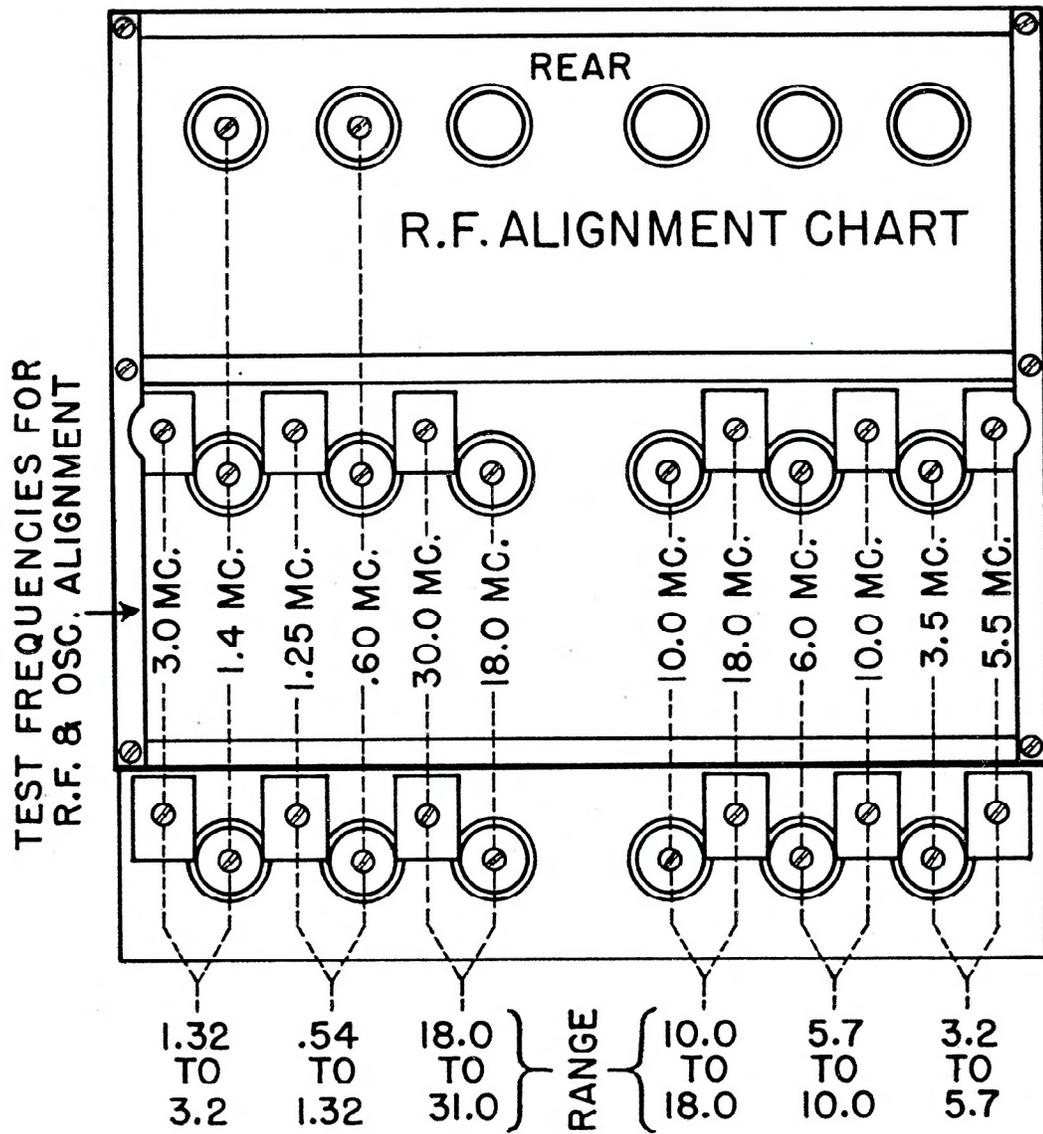

Fig. 7. RF and HF Osc. Alignment Chart
dummy antenna (or through a 400 ohm resistor if the dummy antenna is not available) and with the band spread dial set at 200 on its arbitrary scale, adjust the signal frequency to 1.25 megacycles. Set the band change switch to the .54 to 1.32 mc position, the main dial to 1.25 mc (see Fig. 7), and adjust capacitors C149, C150 and the antenna compensator C101 for maximum output. Adjust the signal generator output or the sensitivity control to give the desired output meter reading without overloading.
**13.52** Set the main dial and the signal generator frequency at .6 megacycles and adjust inductors L113, L107, and L101 for maximum output meter reading. Repeat the above adjustments until no increase of output is obtained. Follow the same procedure as above for the other five frequency bands, referring to the alignment chart Fig. 7 and to Fig. 18 for the alignment frequencies and location of adjustments.